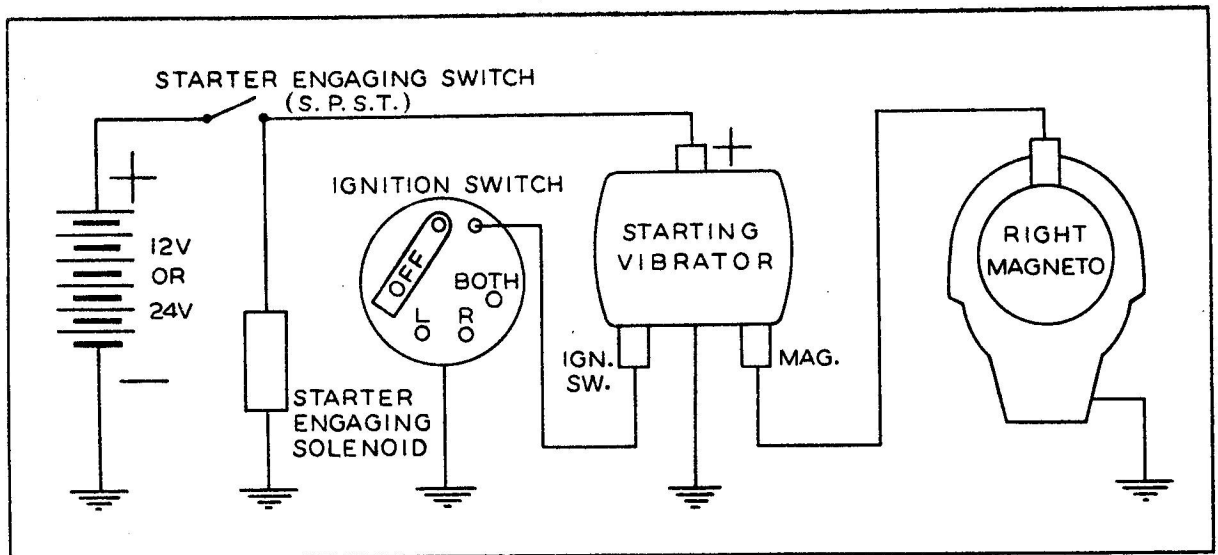

Figure 3 — Installation Wiring Diagram
2. WIRING. (See figures 3 and 5.)
1. PRINCIPLES OF OPERATION. (See figure 3.)